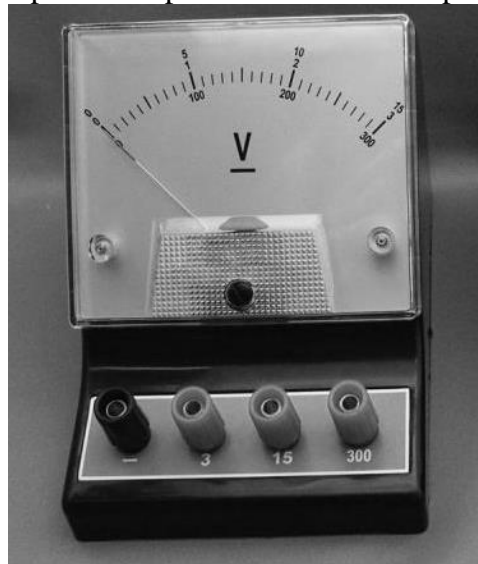

Figure G. 4: Scale Voltmeter.
- 4) **Scale Voltmeters and Ammeter:** A schematic representation a scale voltmeter with a 15 volt scale is shown in Figure G.4. The scale voltmeter shown has three scales; 3 volt, 15 volt and 150 volts. When you use the three volt scale, you cannot measure voltages greater than three volts, and the same applies for the 15 volt scale and the 150 volt scale. For demonstration purpose only the 15 volt scale is shown in Figure B.4. Note that the red input in the scale voltmeter is the positive input while the black input is the negative input.